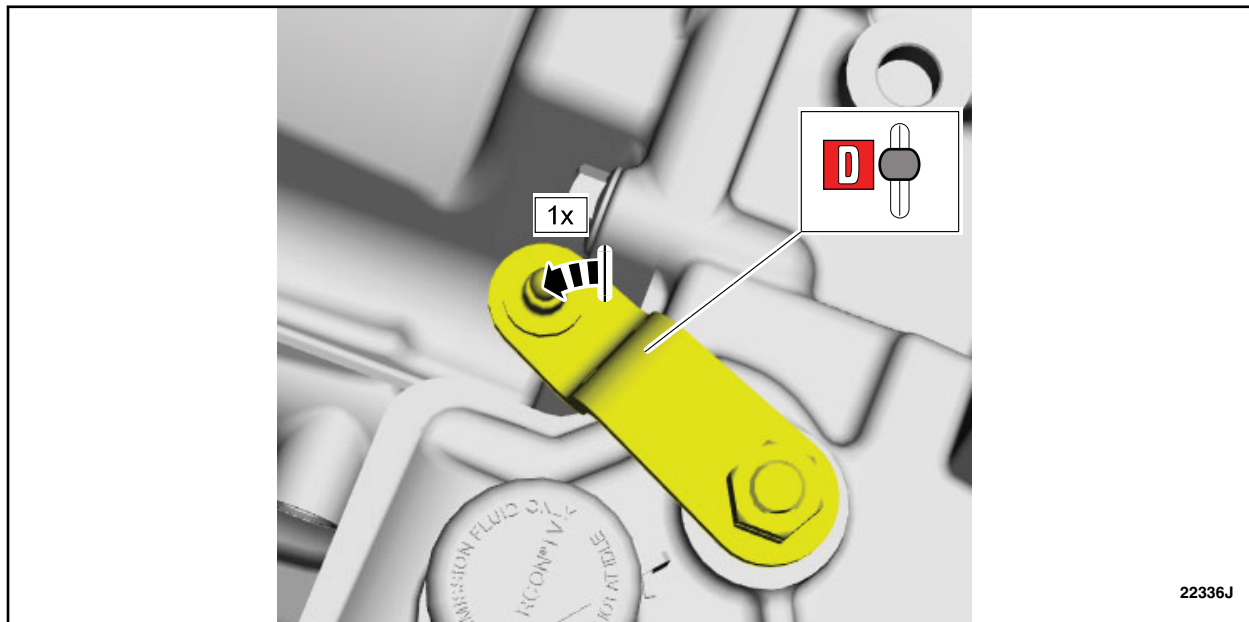

FIGURE 9
10. Rotate the manual control lever counterclockwise 1 detent into Drive (D). See Figure 9.